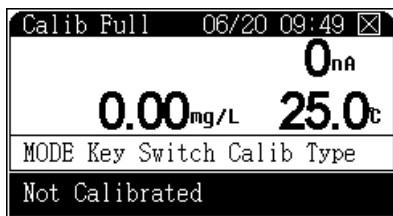

Figure 22 Calib Full
- 6 Select **Full Scale**. Press **[Enter]** to open Full Scale Calibration as shown in Figure 22. During calibration, press **[Setup]** to set calibration parameters such as barometric pressure and salinity.